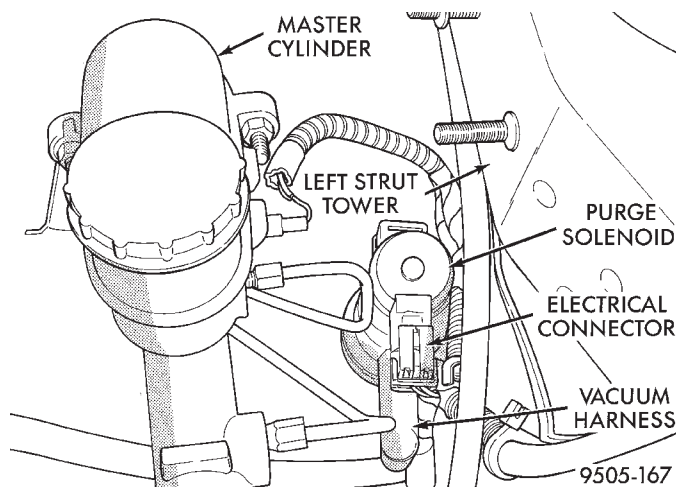

Fig. 94 Purge Control Solenoid
(4) Remove the vacuum harness connector and electrical connector from the purge solenoid (Fig. 94). Remove purge solenoid from vehicle.
- (8) Install the purge control solenoid (Fig. 94) on the left front frame rail. Tighten the purge control solenoid mounting bolt.